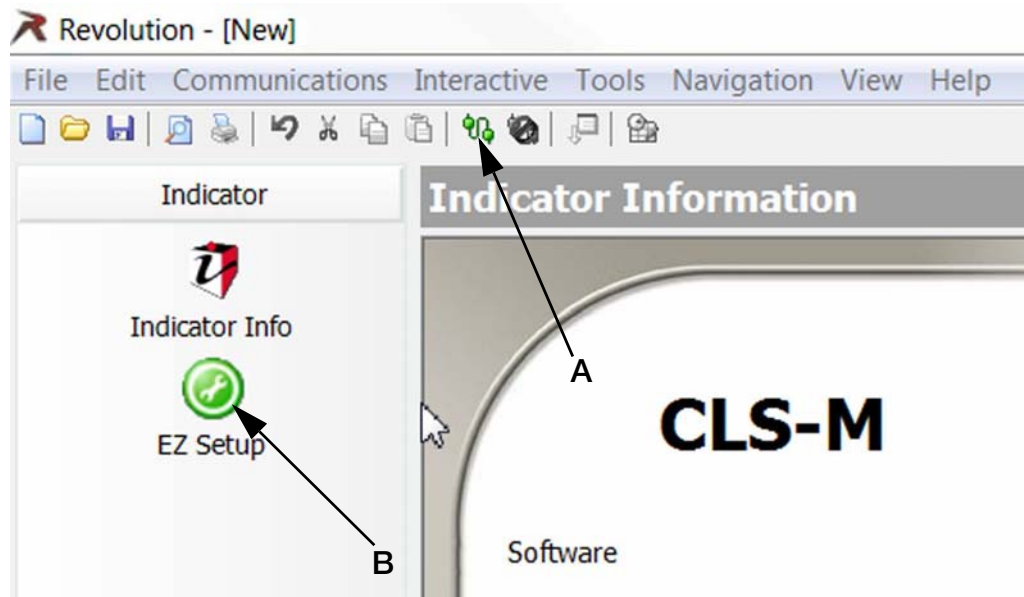
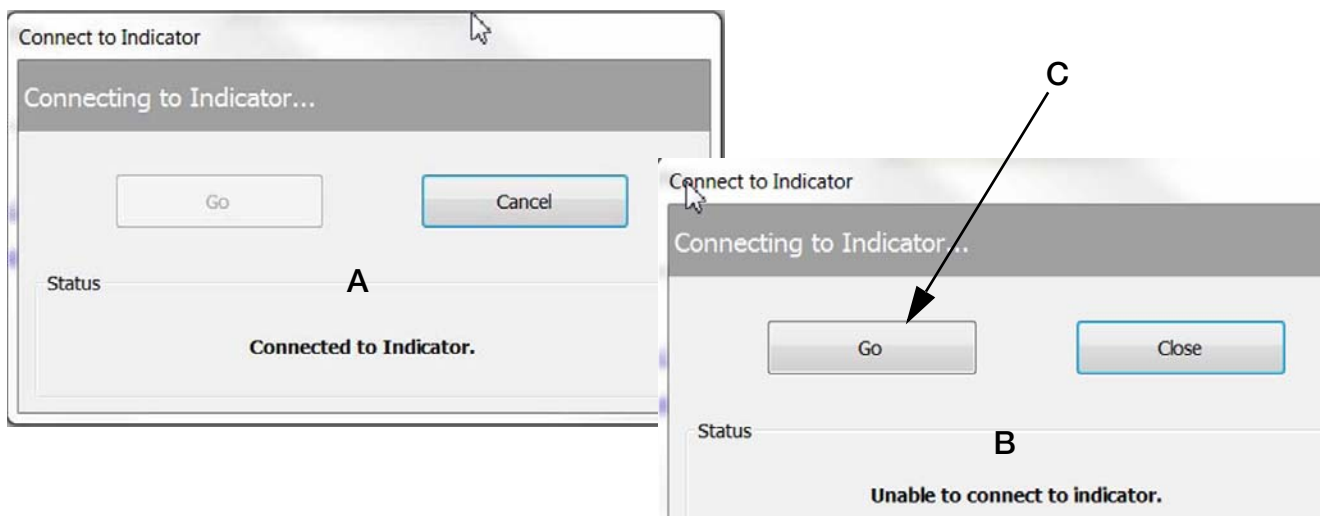

Figure 4-5. Connect Revolution
Figure 4-6. Connection Success/Failure
- Select the connect icon from toolbar (Figure 4-5 A). A pop-up box comes up momentarily (Figure 4-6 A) to indicate the computer is now indicated to the box.
- If it comes up as **Unable to Connect to Indicator** (Figure 4-6 on page 16 B) verify the Comm Port is correct and that the mobile PC is turned on. Then select **GO** (Figure 4-6 on page 16 C) to connect.